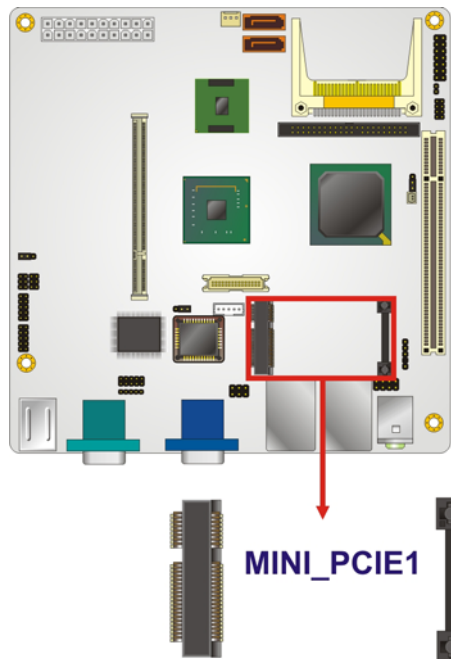

Figure 4-13: PCIe Mini Card Slot Location
- CN Location:** See Figure 4-13